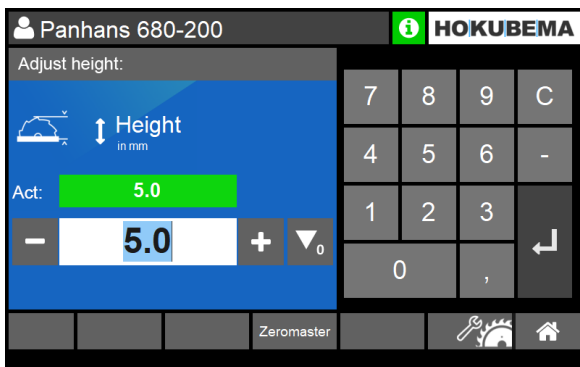

Figure 55: Adjust height
2. Enter the desired target position in mm (see ⇨ Figure 55).